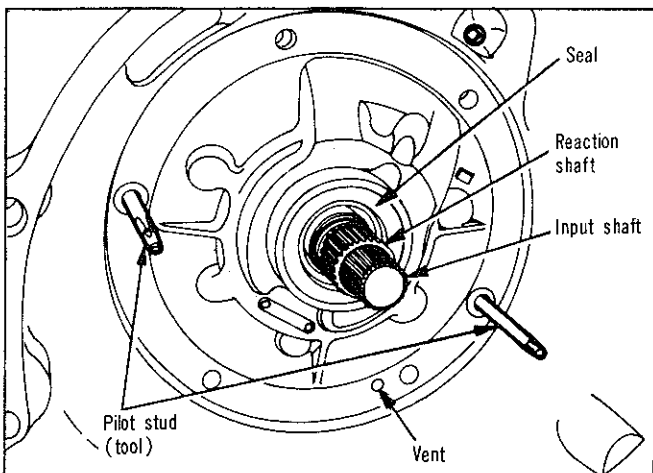

Fig. 66—Installing pump and reaction shaft support
(1) Screw two pilot studs, Tool E21C35C in pump opening in the case (Fig. 66). Install a new gasket over the pilot studs.
(2) Place a new rubber seal in the groove on outer flange of pump housing. Make sure seal ring is not twisted. Coat seal ring with grease for easy installation.
(3) Install pump assembly in the case; tap it lightly with a soft mallet, if necessary. Fit four pump bolts and remove pilot studs, install remaining bolts and snug down evenly.